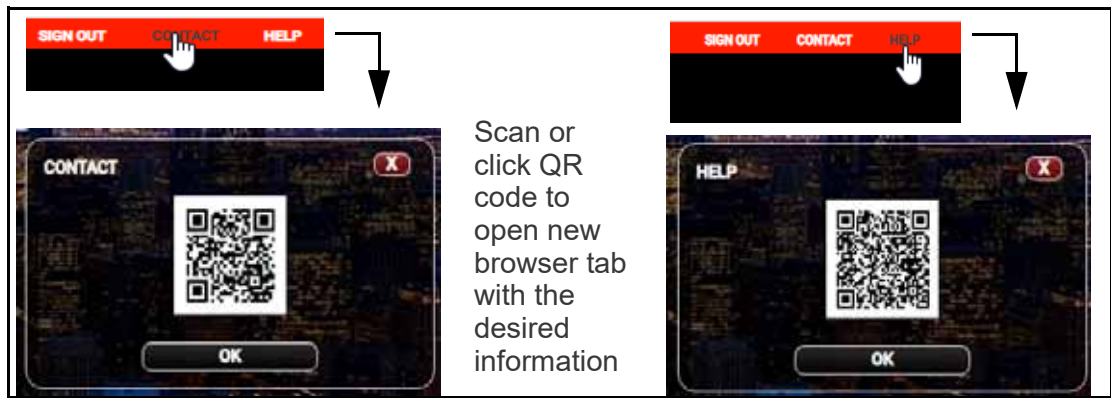

Figure 5-5 **CONTACT** and **HELP** popups with QR codes
**CONTACT** and **HELP** links are at the top right of the screen header. As shown in Figure 5-5 below, click either of these links to open a popup with a QR code. The user can then scan or click the QR code to open a new browser tab with Westell contact information or the online user guide.